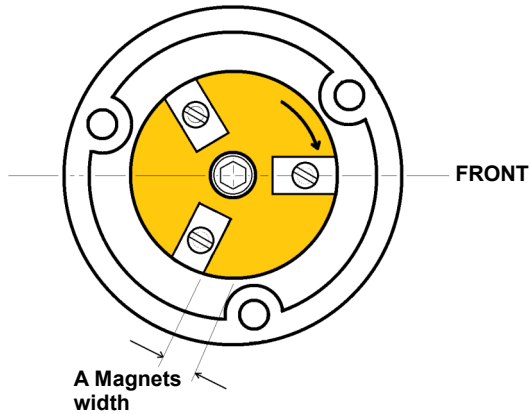

Fig.3.
- 20) Loosely fit the stator plate in place of where the contact breaker plate was fitted using the original screws, the pickup coils should be positioned as in fig.3 to prevent electrical interference from the alternator. Set the stator half way along its adjustment slots and tighten the screws. Look through the timing hole in the stator plate and adjust the rotor slightly, so that the centre of one of the magnets aligns with the lower edge of the stator plates timing hole, see Fig. 3.
- 23) Fit the stator plate with the three pillar screws that held the contact breaker unit. See Fig.3